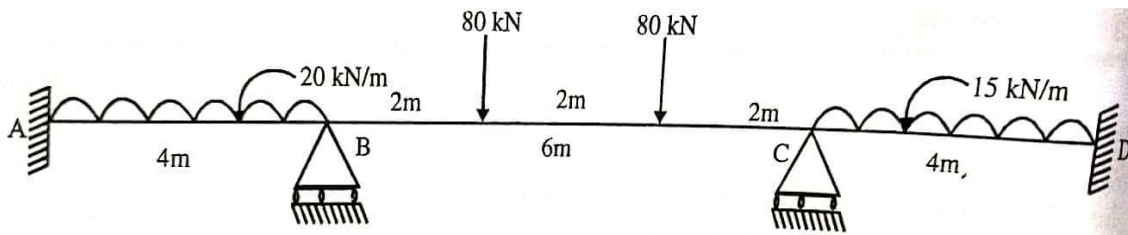

Fig. 1
5. Analyse the continuous beam loaded as shown in Fig.1 by the slope-deflection method and draw the bending moment diagram. Given: $2I_{AB} = I_{BC} = 2I_{CD} = 2I$ 14M